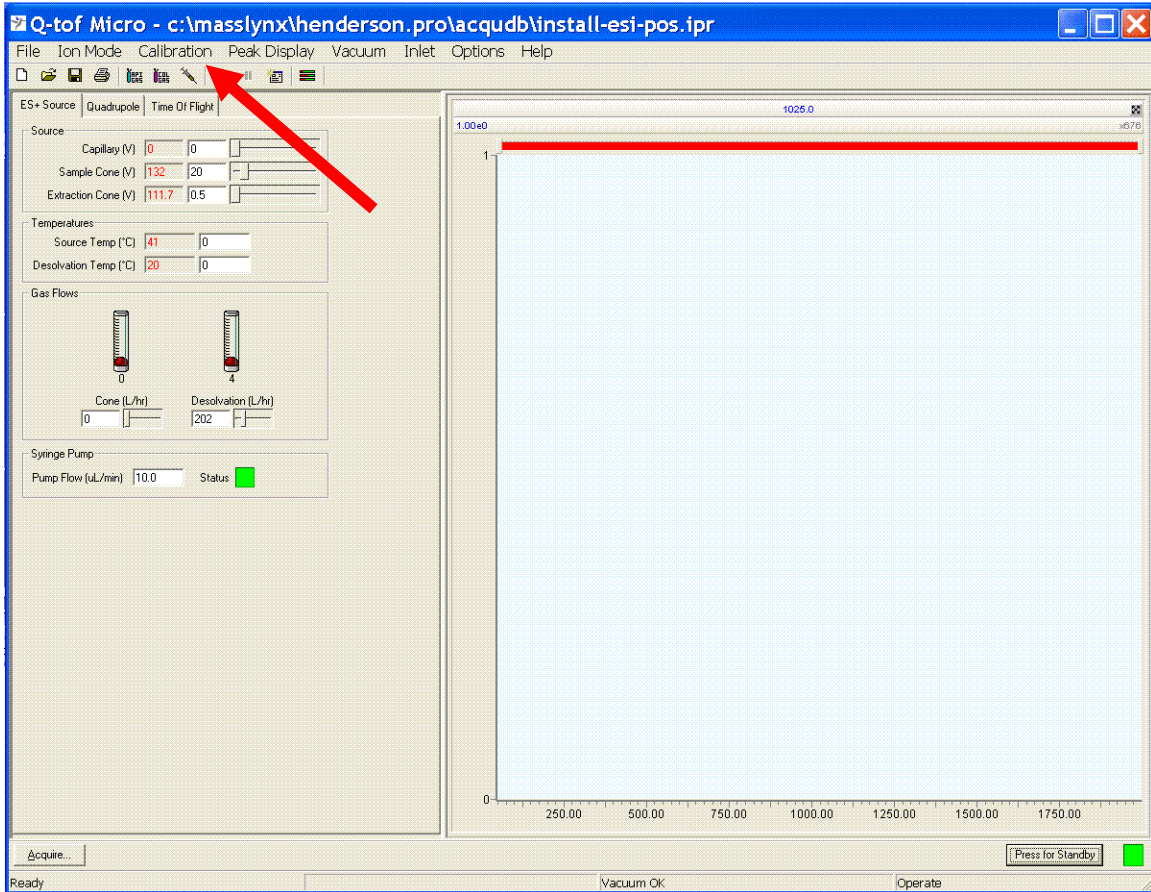
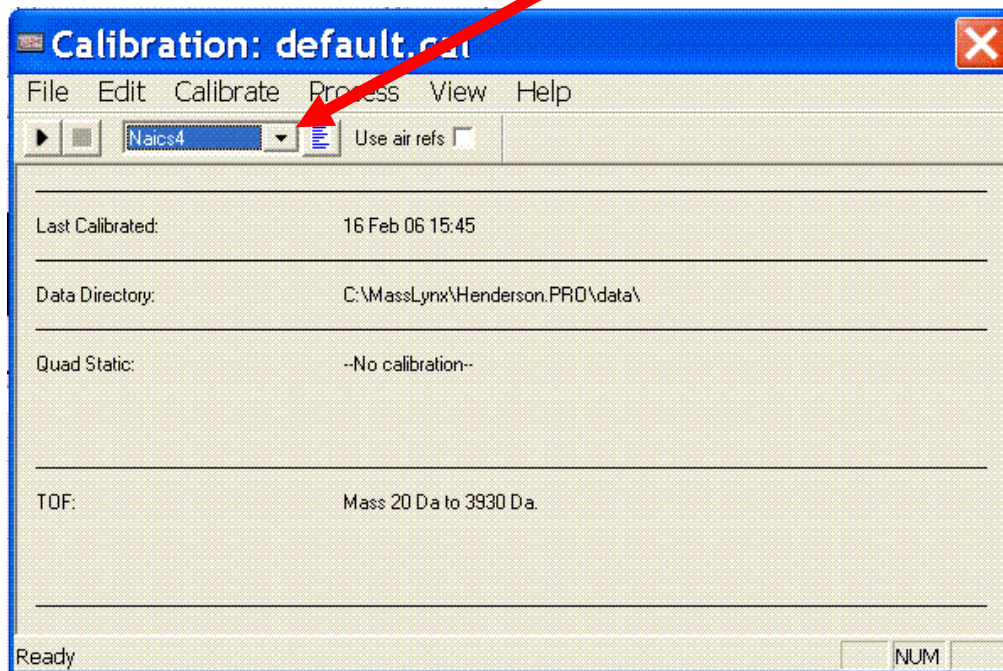

Figure 13
Figure 14
- Go to the “Tune Page” and Click on “Calibration” then “Calibrate Instrument” (Figure 13). This will give the window shown in Figure 14.
14. If the Matches with respect to References is satisfactory, then click on “Finished” and “Accept Calibration.” This will take you back to the “Display Calibration Screen” as Figure 14. Close this by using “X” and accept the prompt to save changes.